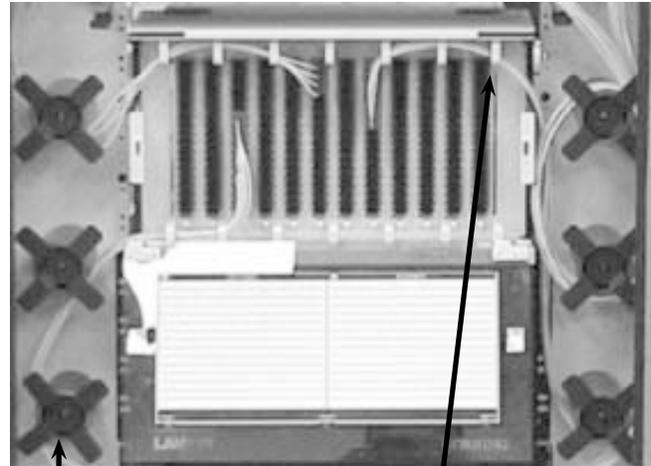

Figure 11
**8.4** Secure splice trays inside the tray stacker using the hook-and-loop strap (Figure 11).